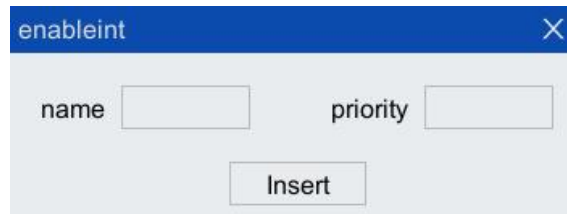

Figure 5-33 "enableint" instruction configuration interface
- Step1. Click "Insert Cmd> Interrupt Trigger> enableint" option in the toolbar of the program editor to pop up "enableint" instruction interface, as shown in Figure 5-33.